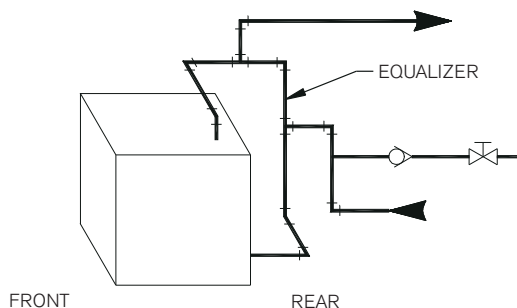

Figure 3.1: Steam Boiler Piping, EC-03
2. See Figures 3.1 and 3.2. The return from system should always enter equalizer through Hartford Loop, 2" to 4" below normal water line (see dimensional drawing for normal water line).